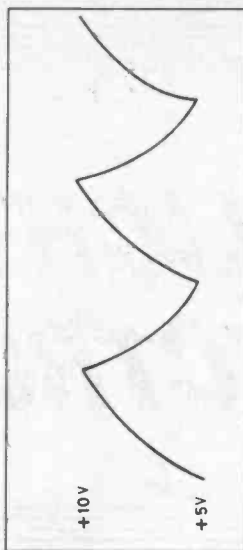

Fig. 4. Non-linear triangular waveshape produced across C4 by IC1.
A 555 timer, IC1, is employed here in its astable mode to provide the low frequency timing waveform, which has a period of approximately ten seconds. The non-linear triangular waveform produced across capacitor C4 by IC1 (see Fig. 4) is buffered by transistor TR1 and provides a modulating input to the control voltage pin (9) of IC2, a phase locked loop.